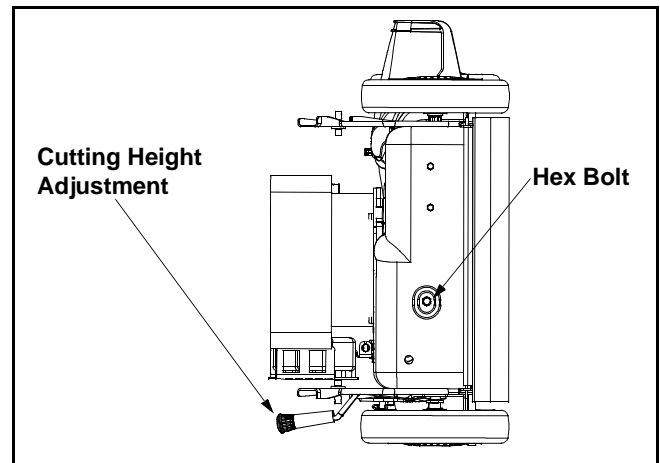

Figure 18
- Remove the hex bolt from the rear of unit holding the transmission to the mower housing. See Figure 18.